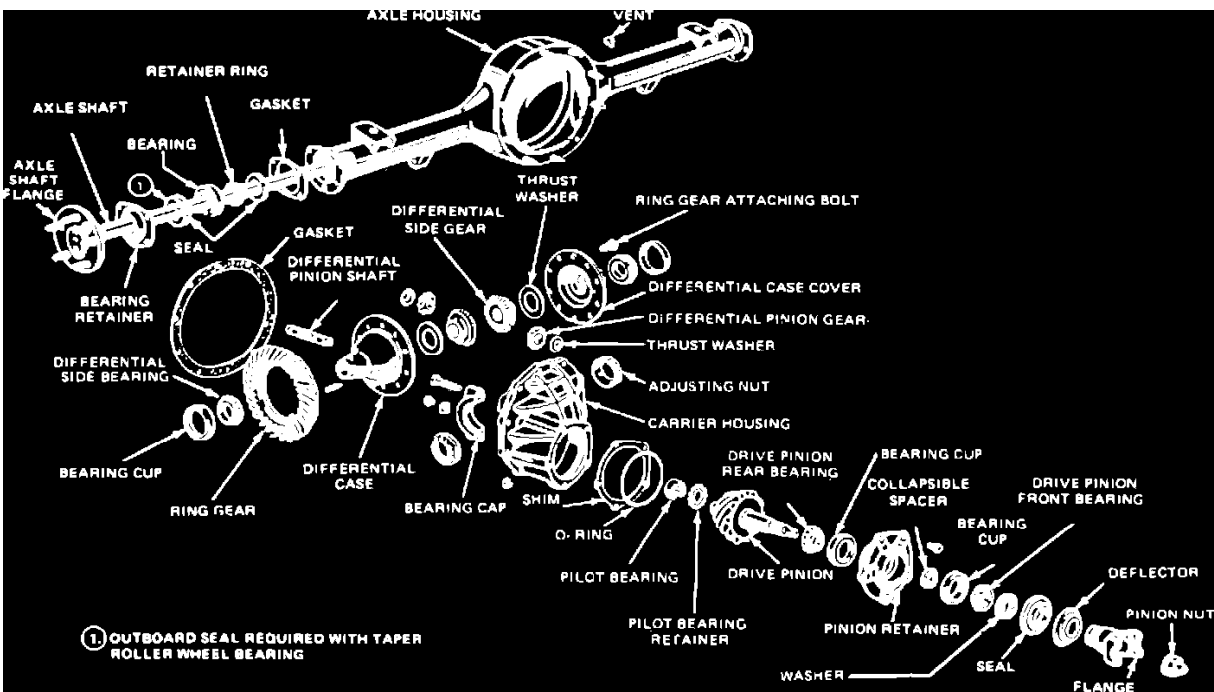

Fig. 1 Removable Carrier 9In. Ring Gear Axle Exploded View
3. Remove adjusting nut locks, bearing caps, and adjusting nuts, Fig. 1, then lift differential case assembly out of carrier.